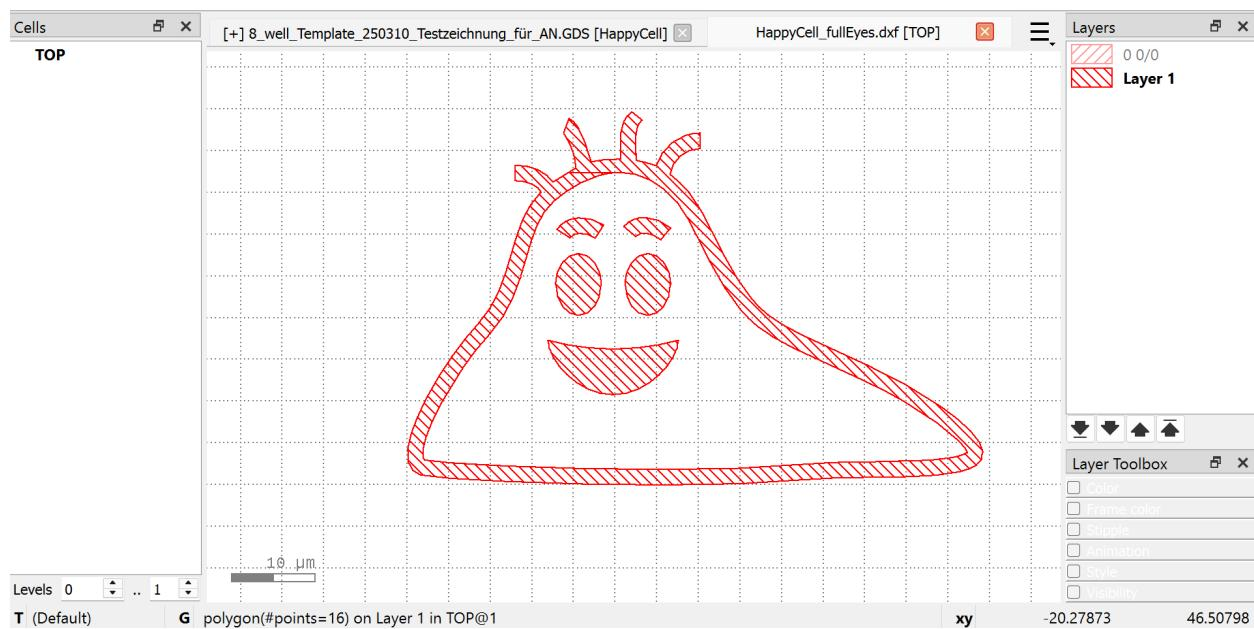

Figure 11: The imported .dxf-file shown in a new tab.
5. The imported .dxf file will be displayed in a new tab, for example, *HappyCell_fullEyes.dxf* (see Figure 11).